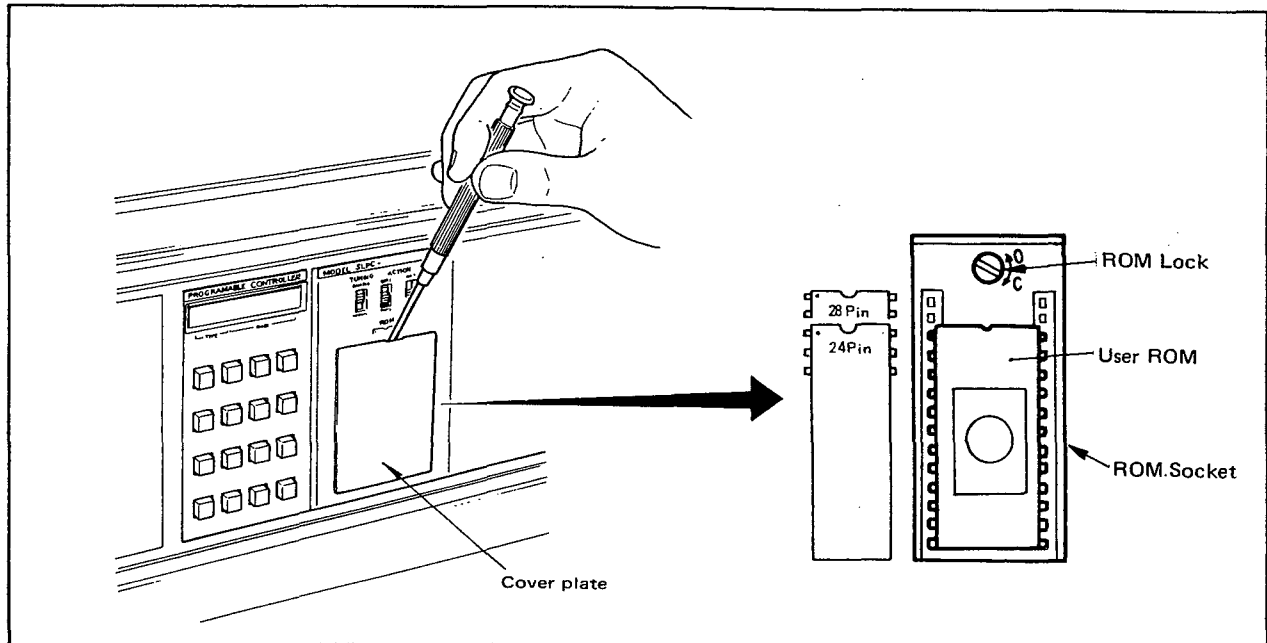

Figure 6-3-7. Removing Tuning Panel Cover Plate and ROM.
- (1) Removing User ROM
- b. Remove the tuning panel cover plate; User ROM will be exposed. (See Figure 6-3-7.)